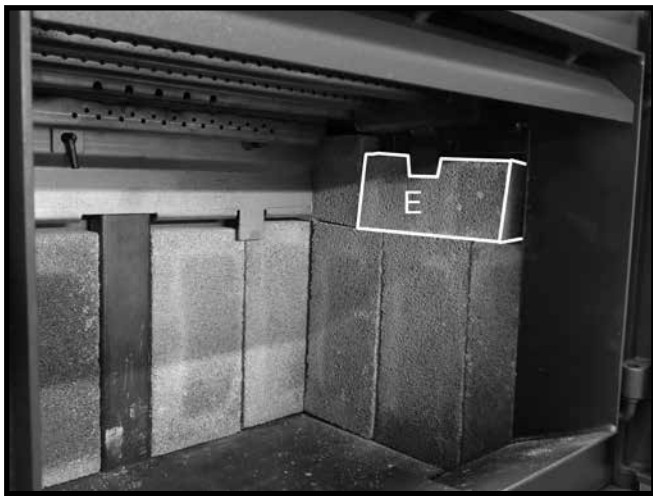
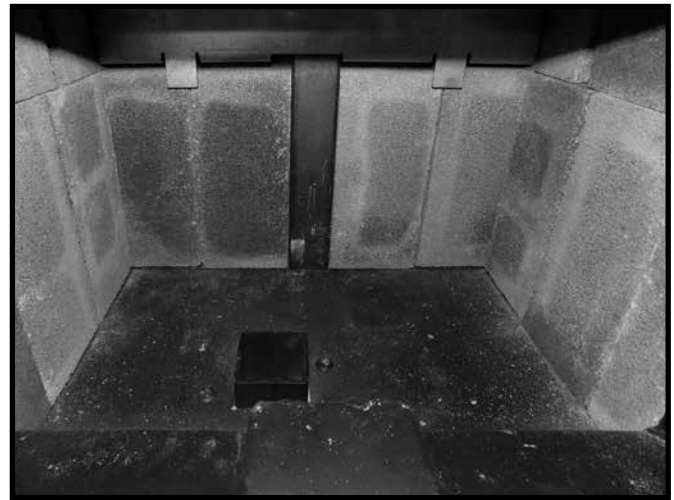

Figure 28: Final side wall firebrick in position.
Figure 29: Firebox floor with ash dump.
7. Slide an "E" firebrick under the side wall brick rail tab and rest on top of the three previously placed side wall firebricks (Figure 28). Repeat steps 4-7 on the other side (Figure 29).